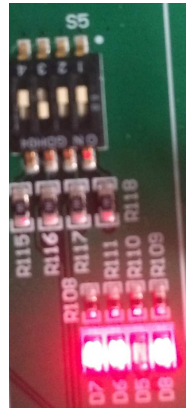

Figure 15. DTGC Mode Test: AFE5832 EVM Switches (S5)
- Set the switches of the AFE5832 EVM at S5 for 'Up-Down Ramp Mode' as Figure 15 illustrates. LEDs D6-D8 should be lit and LED D5 should be off.